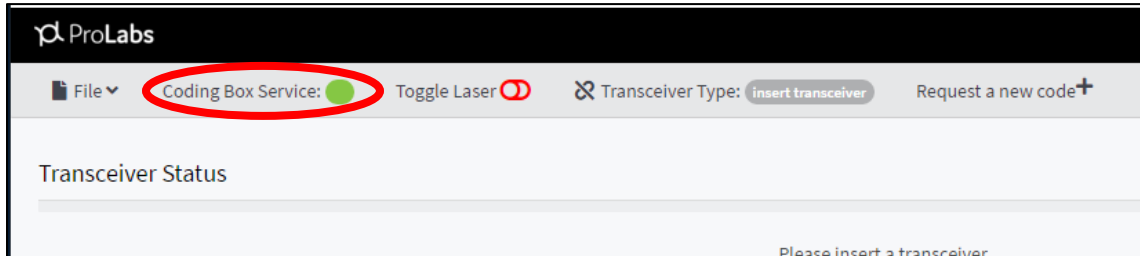

Figure 5 – ProTune™ Service
- 8) The ProTune™ application interface will now load, and a green ProTune™ Coding Box Service light will indicate that you are connected to the ProTune™ appliance. See Figure 5.